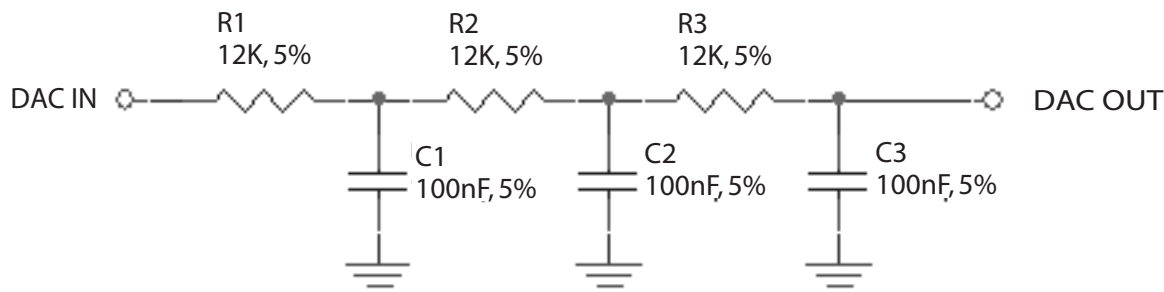

Figure 11 Required DAC Filter
2. See Figure 11 for recommended low pass filter